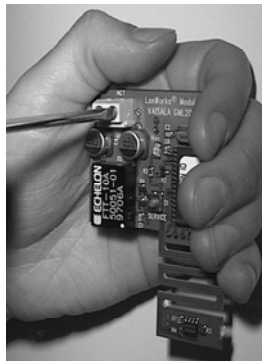

Figure 1: Hold the module in hand while connecting the wires
2. Pull the two network wires through the hole at the bottom of the housing. When connecting them to the screw terminal marked 'NET' of the GML20T, hold the module in one hand and make connections with the other (see Figure 1). The polarity can be freely selected. Note that as all NDIR transmitters consume power, an additional power supply is always needed. Check that the nominal 24 V supply is connected between terminals + and - on the transmitter's mother board. Analogue output signals can be used simultaneously with the LonWorks® module.